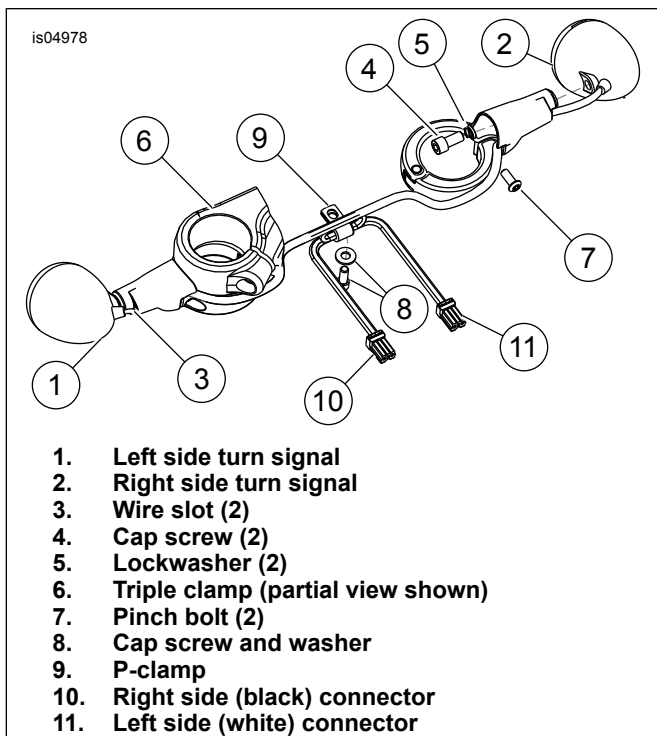

Figure 6. Installation of Mounting Bracket and Wire Harness
See Figure 6. The mounting brackets are stamped with either LH (left side) or RH (right side). Be sure to install the correct bracket on the correct side.
4. **ALL models:** See Figure 6. Carefully feed the length of wire from the turn signal lamp into the stalk through the wire slot (3).
5. Install the screw (4) and lockwasher (5) into the stalk and through the hole. Position the turn signal lamp against the end of the stalk and thread the screw into the lamp housing. Do not fully tighten at this time.
6. Place the mounting bracket in position on the lower fork below the triple clamp (6). Align the lamp to face forward, and parallel to the ground. While holding the alignment, remove the assembly and tighten the lamp mounting screw (4) to 8–9 N·m (70–80 **in-lbs**).
7. Install the mounting bracket assembly to the lower fork with a pinch bolt (7), ensuring:
- b. Verify that the exiting wire is centered in the wire-notch (3) at the stalk base and is not being pinched by the stalk against the fork bracket.
8. Tighten the pinch bolt (7) to 8–9 N·m (70–80 **in-lbs**).
10. Remove the cap screw and washer (8) that mount the front brake line(s) to the underside of the lower fork bracket, and set aside.
11. Loosely install the P-clamp (9) and the brake line with the cap screw and washer (8).
14. See Figure 6. Install the socket terminals from the the turn signal harnesses into the correct lamp side connector halves following the instructions in the appropriate service manual. Unless noted differently on removal, Left side (white connector) (11): Right side (black connector) (10):